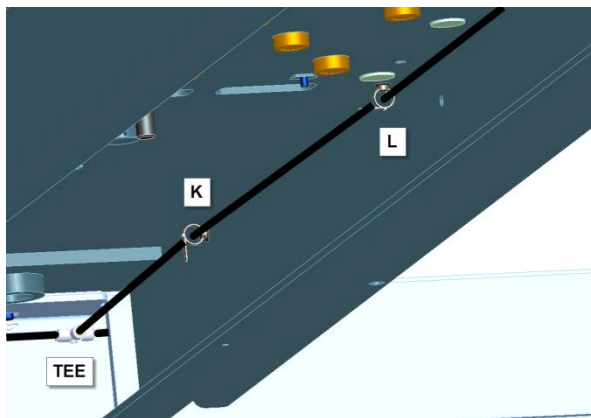

Figure 37
- Retrieve the remaining 20 ft long piece of 1/4" dia. polytube. Connect one end to the T-fitting on the right side of the rear cross-member. Run the air line through ties “K”, “L” on the left side of the right deck. (**Fig.37**). toward the front of the lift. Ensure that the air line runs above the cross-deck stiffener bars.